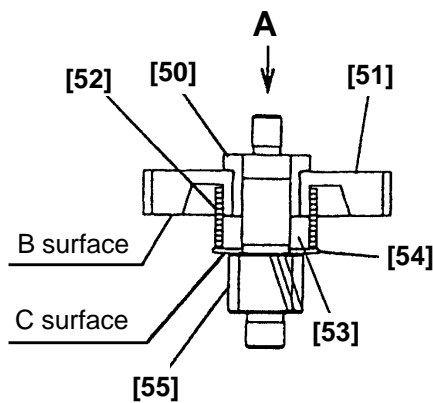

Fig. 16
(6) Disassembly of the gear unit (Figs. 16, 17 and 18)
- 1) Press First Pinion (B) [55] in A direction with a hand press supporting the surfaces B and C respectively. Then remove Sleeve (B) [50], First Gear (B) [51], Clutch Spring [52], Collar (A) [53] and Washer [54] (Fig. 16).